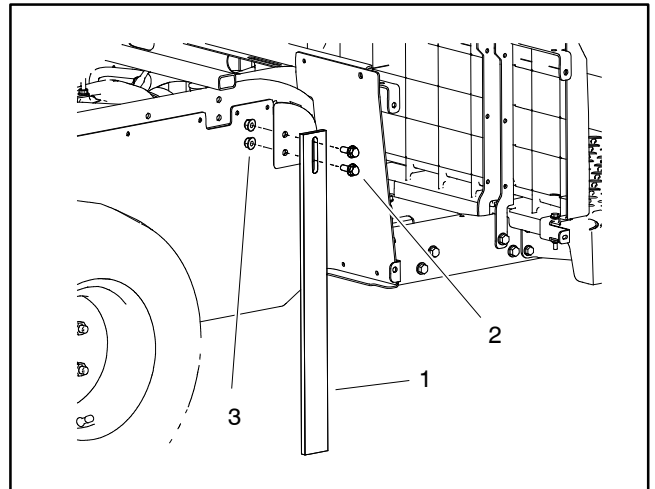

Figure 5
When the front and rear frame components are separated to install or service the frame extension kit, the rear frame of the machine can be supported with the legs included in this tool kit. The legs attach to the rear frame with two (2) flange head screws and nuts for each leg (Fig. 5).